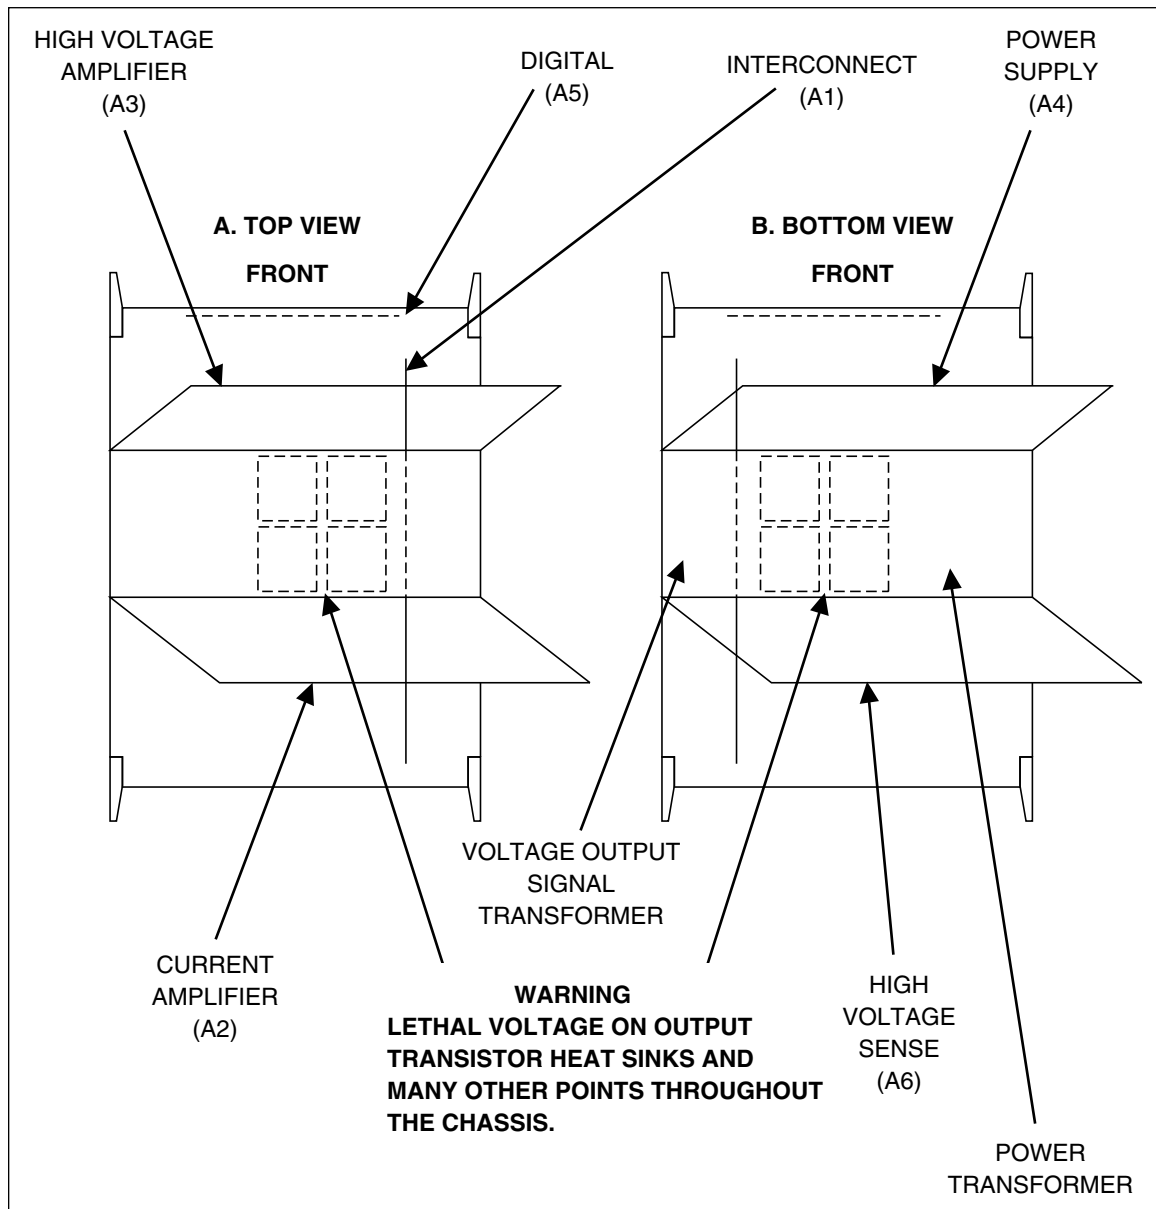
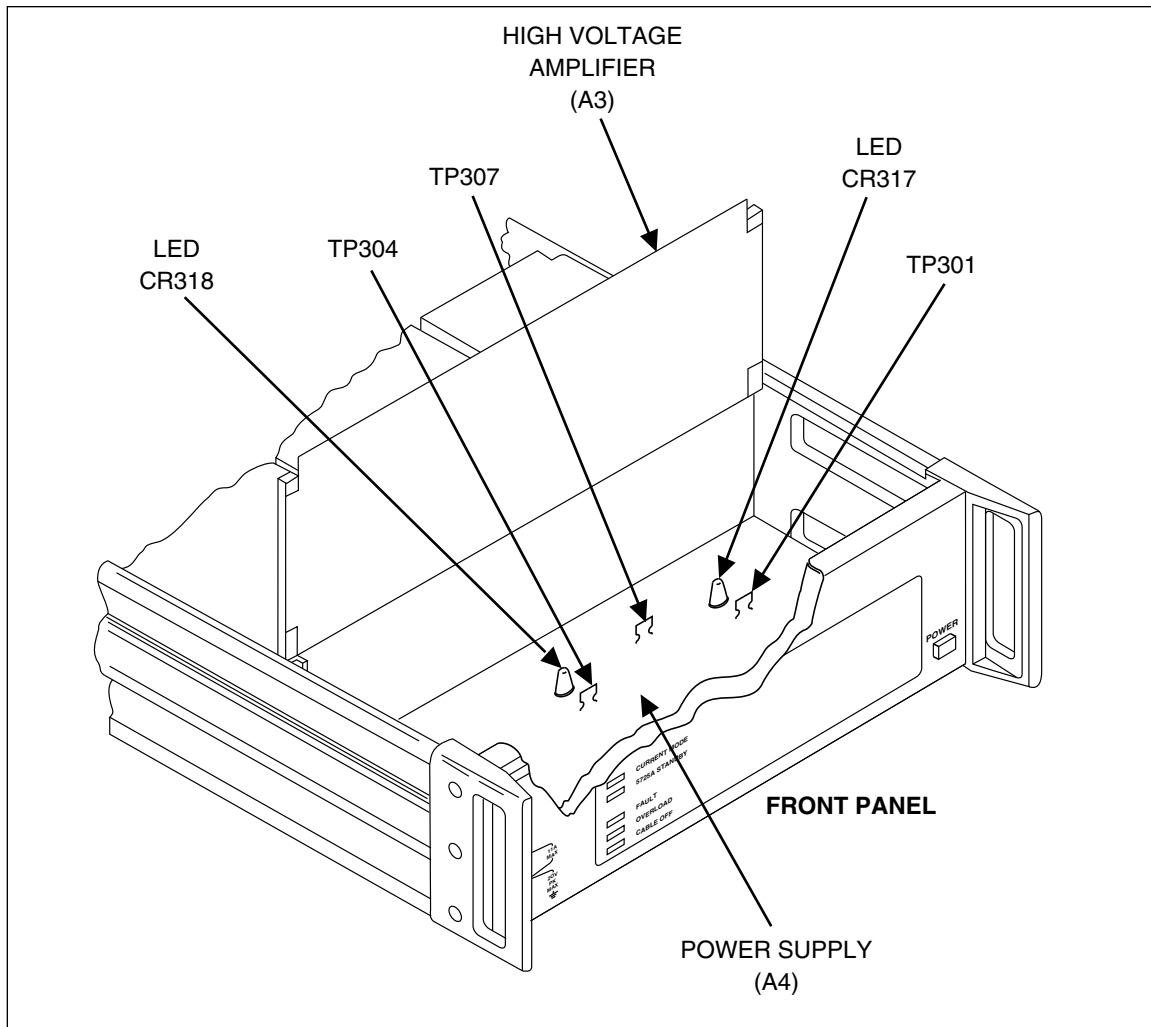

Figure 6-3. Assembly Location Diagram
Figure 6-4. Initial Access Procedure
Figure 6-3 shows the location of all major modules in the 5725A. View A is a top view, and view B is a bottom view. Both views show the covers removed. The 5725A is constructed so that two modules are completely accessible from the top, and two modules are completely accessible from the bottom. Each of these four modules can be lifted out of the chassis and locked in a service position by pivoting the assembly and inserting two machined pegs into two machined holes in the chassis towards the center of the instrument. (Figure 6-4 shows the High Voltage Amplifier assembly (A3) in the Service position.) Once in the service position, a module can be removed completely by disconnecting all cables attached to it.
5. Refer to Figure 6-4 for the location of items mentioned in this procedure. Remove the five retaining screws on the High Voltage Amplifier assembly (A3). (Two screws secure each side rail, and one seats the board into a mating connector on the Interconnect assembly.) Lift the High Voltage assembly by pulling on the plastic wire-tie loops, pivot it, and insert its metal pegs in the two holes on the chassis as Figure 6-4 shows. This puts the High Voltage Amplifier assembly in the service position.